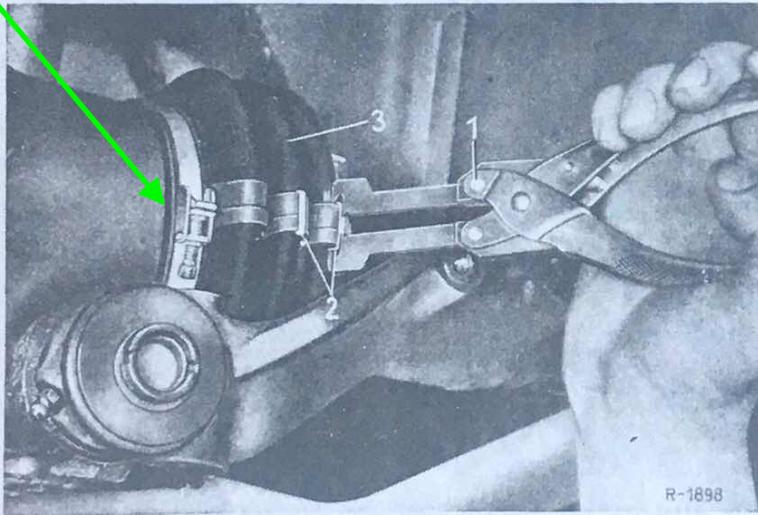

Fig. 35-7/3
**Caution!** Attach the hose clip on the rear axle housing in such a manner that the lock is facing toward the rear and can be tightened from below through the yoke end of the righthand supporting tube. When the lock is on top, the deflection of the righthand supporting tube might damage the rear axle sleeve. The lock of the hose clip on the righthand supporting tube may face upwards (Fig. 35-7/4).